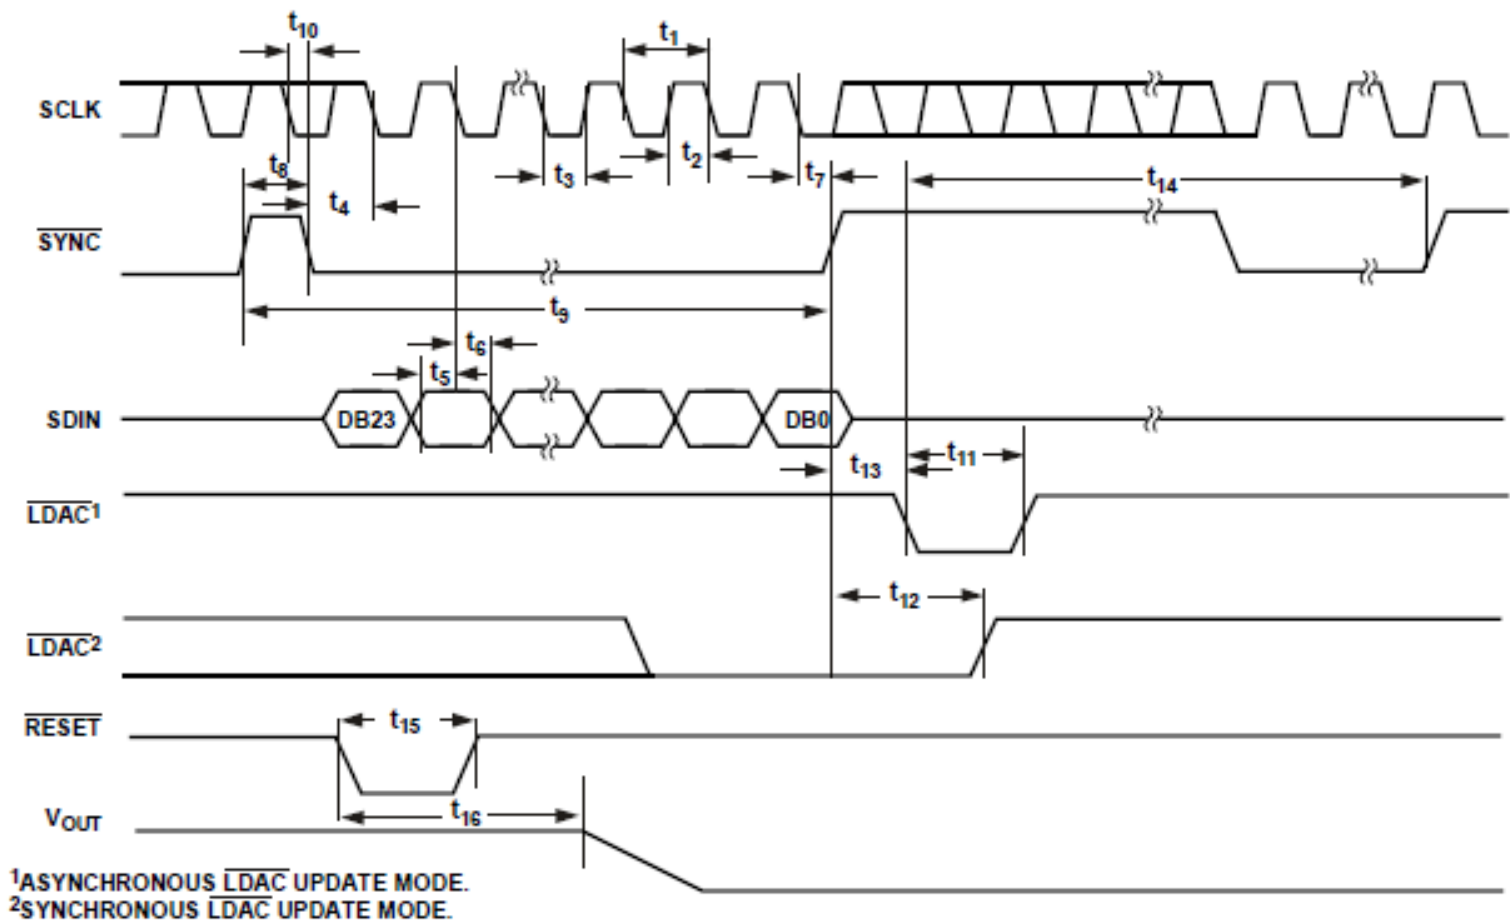

FIGURE 5. Serial Write Operation.
- 17/ All input signals are specified with  $t_R = t_F = 1\text{ ns/V}$  (10% to 90% of  $V_{DD}$ ) and timed from a voltage level of  $(V_{IL} + V_{IH})/2$ . See Figure 5.  $V_{DD} = 2.7\text{ V to }5.5\text{ V}$ ,  $1.62\text{ V} \leq V_{LOGIC} \leq 5.5\text{ V}$ ;  $V_{REF} = 2.5\text{ V}$ . All specifications  $T_{MIN}$  to  $T_{MAX}$ , unless otherwise noted.